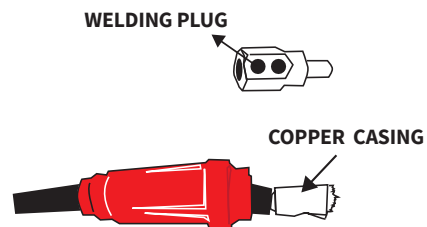

FIGURE 4
4.2.1 To connect the welding leads, begin by stripping 1" of rubber off the electrode holder cable. **FIGURE 4.**
4.2.3 Wrap the exposed cable in a copper casing then insert into the welding plug. **FIGURE 4.**